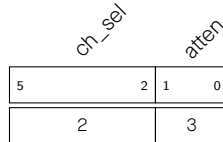

Figure 39-15. SAR ADC1 cmd0 Configuration
- Channel 2, with the attenuation of 12 dB. See Figure 39-15.